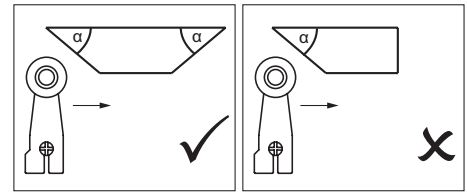

Fig. 1: Dog shape
▶ To prevent the actuating element from bouncing, the dog must run out gradually (see Fig. 1).